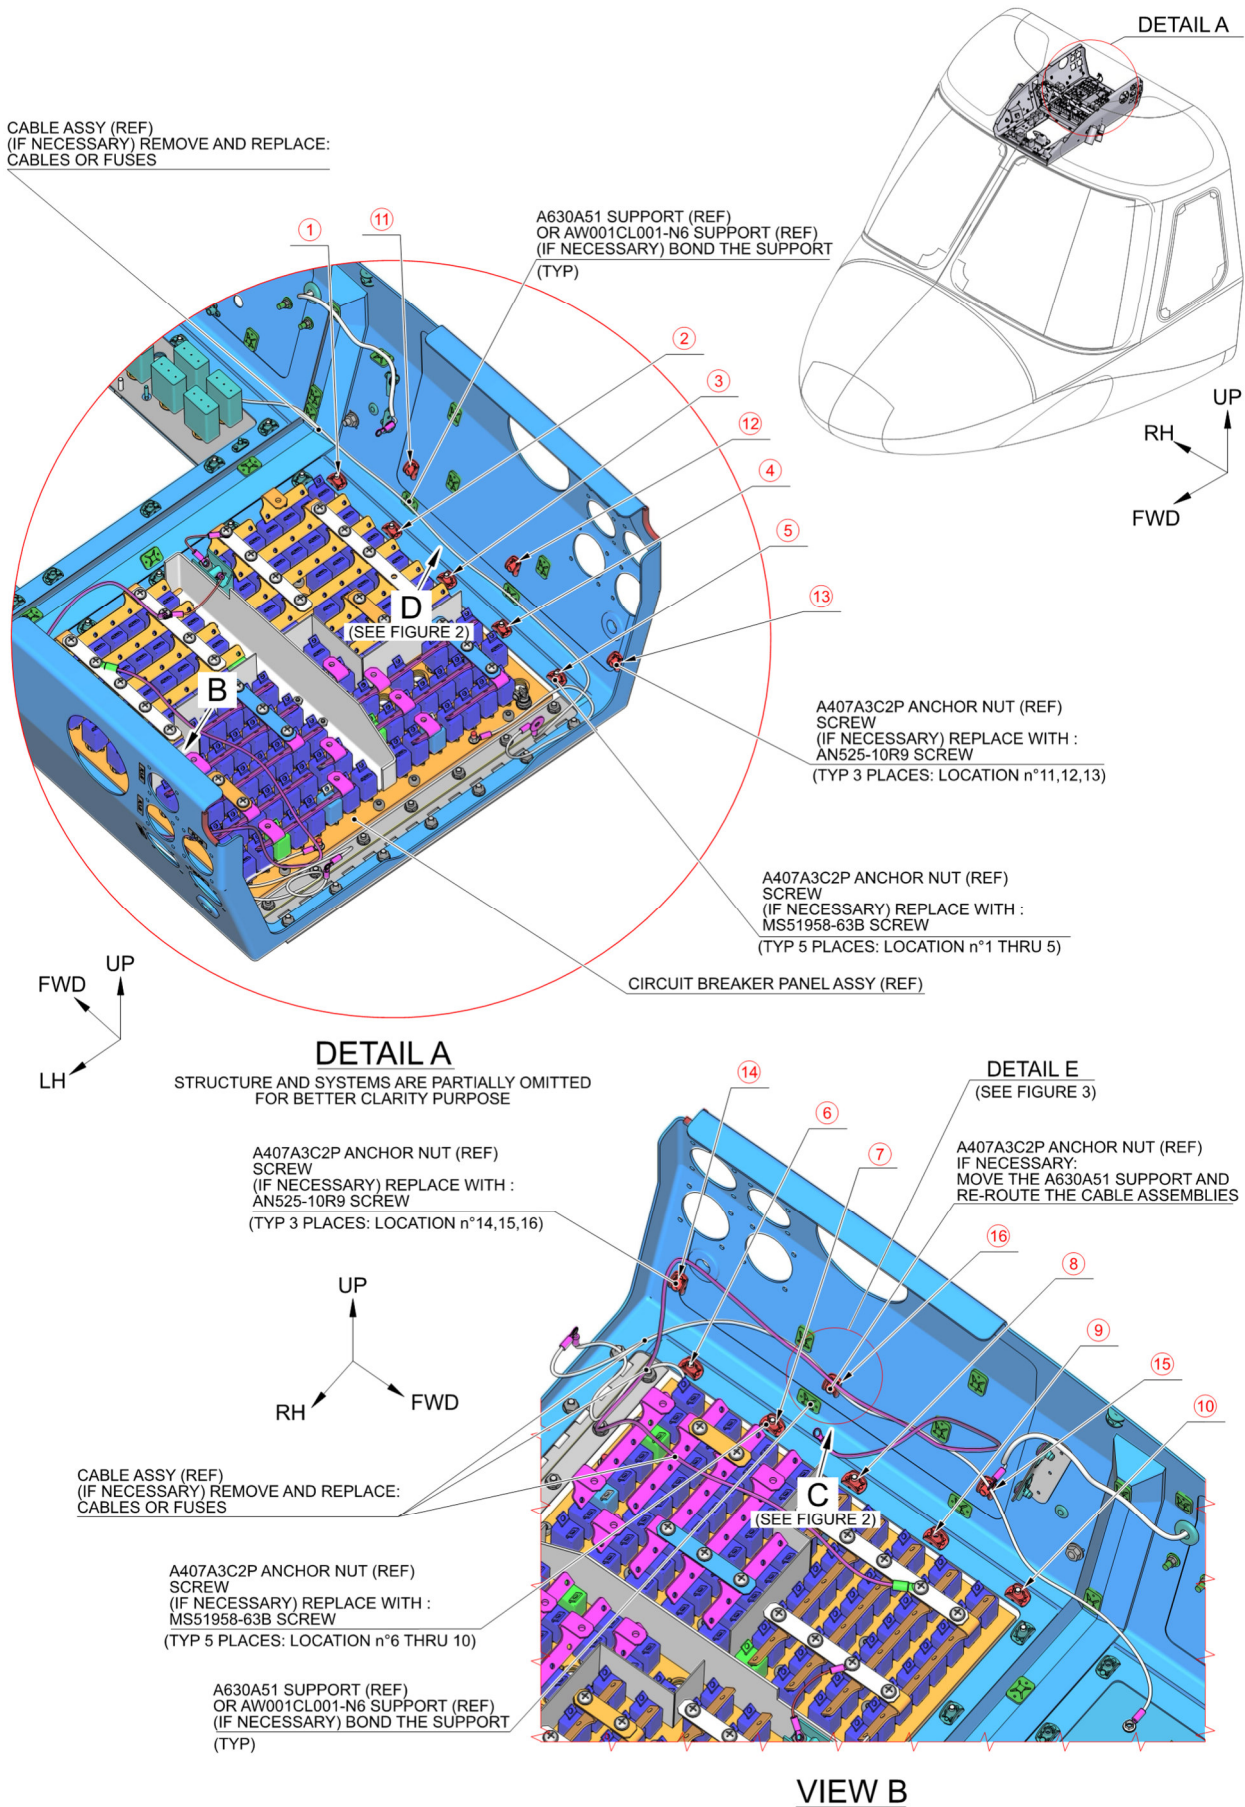

Figure 1
2. In accordance with AMP DM 39-A-06-41-00-00A-010A-A and with reference to Figure 1 thru Figure 3, remove all external panels, internal panels and internal liners as required to gain access to the area affected and perform the inspection of the overhead panel cable harnesses, anchor nuts, screws and supports as described in the following procedure:
- 2.2 In accordance with the applicable steps of AMP DM 39-A-24-91-01-00A-520A-A and with reference to Figure 1 Detail A, open the circuit breaker panel assy without removing it.
- 2.3 With reference to Figure 1 Detail A and View B, check the length of the screws (removed in the previous step 2.1) at the indicated locations from n°11 thru n°16, if applicable:
- 2.4 With reference to Figure 1 Detail A and View B, remove the screws at the indicated locations from n°1 thru n°10 and check their length:
- 2.5 With reference to Figure 1 Detail A and View B, re-install n°6 screws, if applicable, in their respective anchor nuts P/N A407A3C2P at the indicated locations from n°11 thru n°16 without the lining panels previously removed at step 2.1
- 2.6 With reference to Figure 1 Detail A and View B, re-install n°10 screws in their respective anchor nuts P/N A407A3C2P at the indicated locations from n°1 thru n°10, keeping the circuit breaker panel assy open.
- 2.7 With reference to Figure 1 Detail A and View B, check for chafing damage of the cable harness and ensure that clearance exists between the cable harness and the anchor nuts P/N A407A3C2P and/or the screws at the indicated locations from n°1 thru n°16.
- 2.8 With reference to Figure 1 Detail A and View B, remove and replace the damaged cables or fuses.
- 2.9 With reference to Figure 1 View B and to Figure 3 Detail E, measure at the indicated location n°16, on the LH side, the clearance between the anchor nut P/N A407A3C2P and the cable harnesses including a check of the mutual position.
- 2.10 With reference to Figure 1 View B, move the existing support P/N A630A51 or P/N AW001CL001-N6, as applicable, and re-route the cable harnesses in order to respect the clearance of at least 10.0 mm and guarantee the installation ABOVE the anchor nut.
- 2.11 With reference to Figure 1 Detail A and View B, check that all the supports P/N A630A51 and P/N AW001CL001-N6, as applicable, on the LH and RH side are soundly bonded to the panel with no evidences of detachment or delamination.
- 2.12 With reference to Figure 1, replace the supports in the interested position according to the following procedure:
- 2.12.2 With reference to Figure 1 Detail A and View B, carefully remove the bonded plastic support P/N A630A51 and/or P/N AW001CL001-N6 with an applicable plastic spatula. Make sure that you do not cause damage to the structure during this operation.
- 2.12.6 With reference to Figure 1 Detail A and View B, install the supports P/N A630A51 and/or P/N AW001CL001-N6, as applicable, according to the following procedure:
- 2.13 With reference to Figure 1 Detail A and View B, to Figure 2 View C and View D, apply n°2 layers of the white tape P/N AW005ME04T05305 on n°10 anchor nuts P/N A407A3C2P (n°5 on the LH side and n°5 on the RH side).
- 2.14 With reference to Figure 1 Detail A and View B, to Figure 2 View C and View D, apply n°2 layers of the white tape P/N AW005ME04T05305 on each of the n°6
- 2.15 With reference to Figure 1 Detail A and View B, temporarily remove n°10 screws P/N MS51958-63B from their respective anchor nuts P/N A407A3C2P at the indicated locations from n°1 thru n°10.
- 2.16 With reference to Figure 1 Detail A and View B, temporarily remove n°6 screws P/N AN525-10R9 from their respective anchor nuts P/N A407A3C2P at the indicated locations from n°11 thru n°16, if present.
- 2.17 In accordance with the applicable steps of AMP DM 39-A-24-91-01-00A-720A-A and with reference to Figure 1 Detail A, close the circuit breaker panel assy using the hardware removed in the previous step 2.15.
2. In accordance with AMP DM 39-A-06-41-00-00A-010A-A and with reference to Figure 1, remove all external panels, internal panels and internal liners as required to gain access to the area affected and perform the inspection inside the overhead panel of the protective tape as described in the following procedure:
- 2.3 With reference to Figure 1 Detail A and View B, to Figure 2 View C and View D, check for the condition of the n°2 layers of the white tape P/N AW005ME04T05305 on n°10 anchor nuts P/N A407A3C2P (n°5 on the LH side and n°5 on the RH side).
- 2.6 With reference to Figure 1 Detail A and View B, to Figure 2 View C and View D, check for the condition of the n°2 layers of the white tape P/N AW005ME04T05305 on each of the n°6 anchor nuts P/N A407A3C2P (n°3 on the LH side and n°3 on the RH side).
- 2.9 With reference to Figure 1 Detail A and View B, check for chafing damage of the cable harness and ensure that clearance exists between the cable harness and the anchor nuts P/N A407A3C2P and/or the screws at the indicated locations from n°1 thru n°16.
- 2.10 With reference to Figure 1 Detail A and View B, remove and replace the damaged cables or fuses.
- 2.11 In accordance with the applicable steps of AMP DM 39-A-24-91-01-00A-720A-A and with reference to Figure 1 Detail A, close the circuit breaker panel assy.
(REFER TO FIGURE 1)